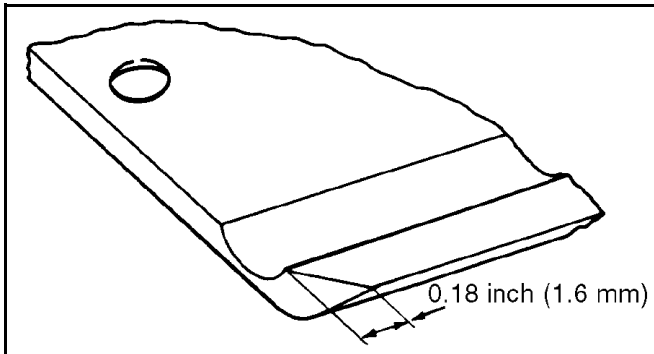

Figure 12D-6. Cutting Height Adjustment
2. Set cutting height gauge to the desired height by measuring between the underside of the screw head and the gauge bar surface and tighten the wing nut (Figure 12D-6).